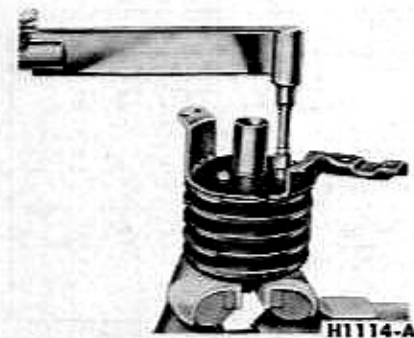

FIG. 13—Mounting Bracket Installation
12. Place the mounting bracket on the mounting hub. Align the notch in the mounting bracket with the tab on the bellows. Install the lockwashers and nuts, and torque them to 7-10 foot-pounds (Fig. 13).